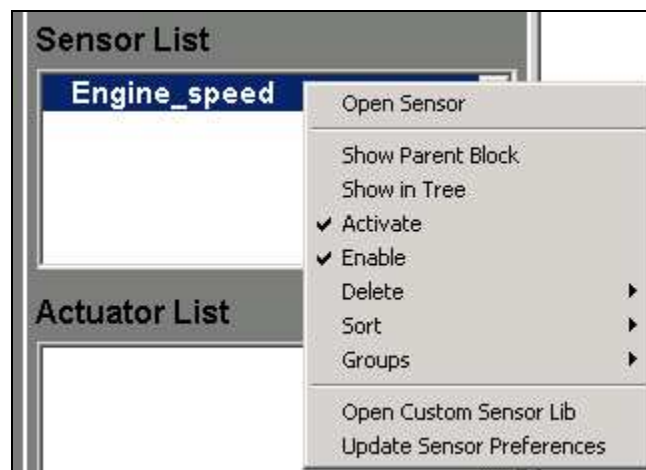

Figure 19: Context Menu of Sensor List with Open Sensor option
1. **From the Sensor List in the main MTM GUI:** Right-click on the corresponding Sensor name in the list and select Open Sensor (see Figure 19). If the Sensor List has been changed in any way by adding, deleting or modifying, then the tool asks you to re-instrument the model before opening the sensor/actuator. This is because each of the change operation can potentially result in a non-synchronized setup between the GUI and the model.